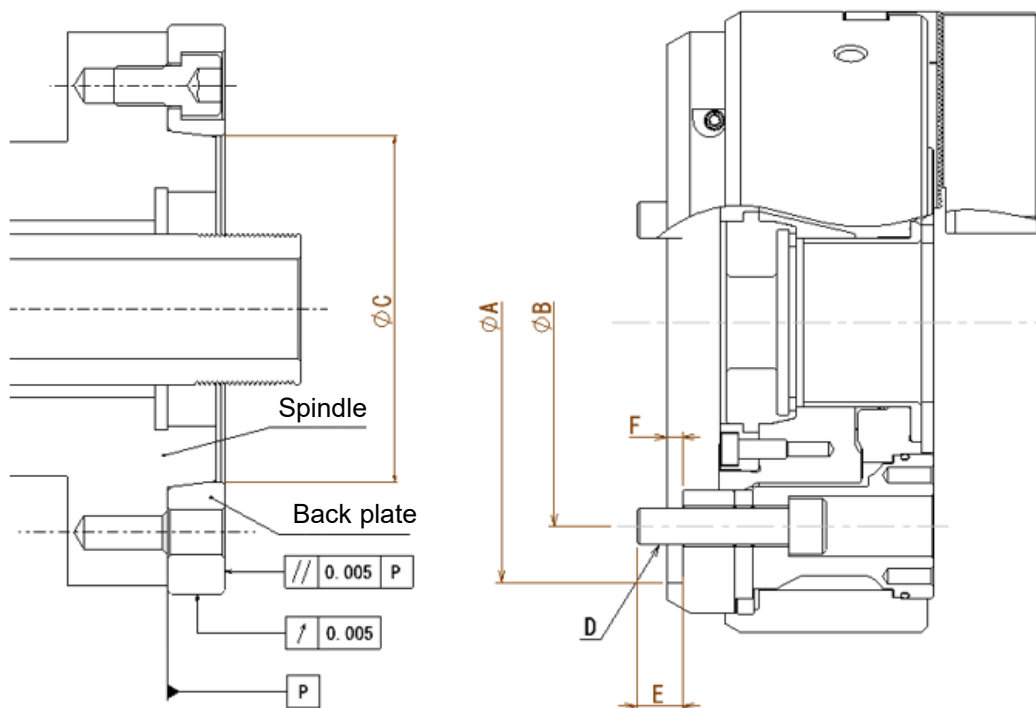

Figure 28 Mounting dimensions
- Use the Back plate that is attached to the Spindle first. (refer to Figure 28)